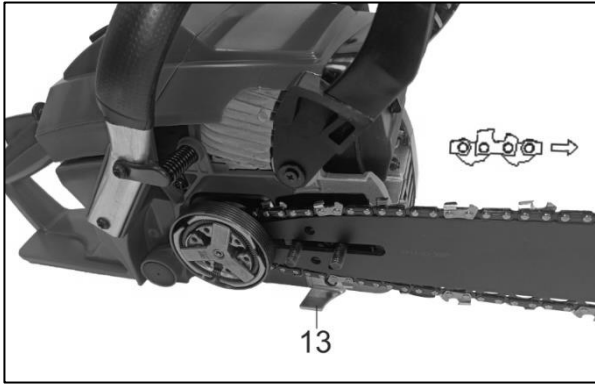

Fig.9
- 3) Place the saw chain over the sprocket behind the clutch, and fit it around the guide bar. Make sure the chain is placed above the chain catcher (13). (Fig.9)